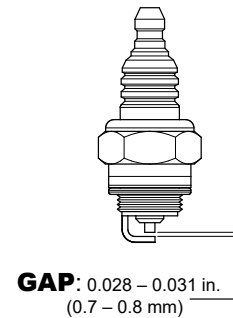

Figure 34. Spark Plug Gap
1. Remove and clean the spark plug (Figure 34), then adjust the spark gap to 0.024~0.028 inch (0.6~0.7 mm). This unit has electronic ignition, which requires no adjustments.